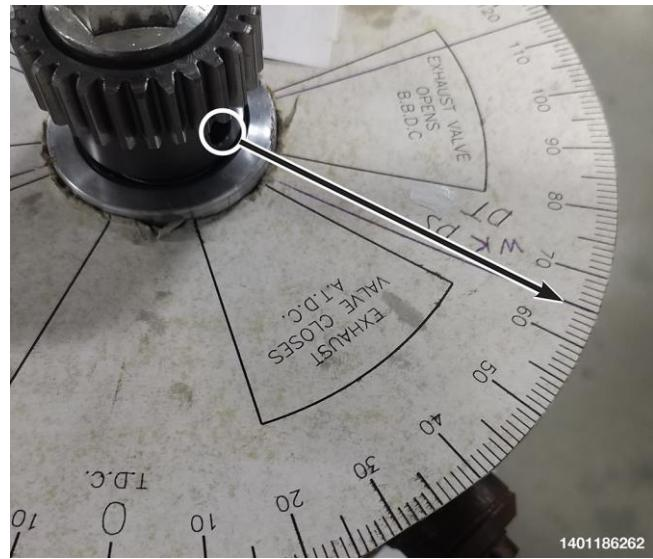

Figure 64 – Installing a Printed Paper Degree Wheel from the Internet
10. Install the degree wheel onto the pump and record the position of the hole in the gear on the degree wheel (Figure 64).
22. Install the degree wheel and rotate the pump shaft so that the hole aligns with the reference mark on the degree wheel that was recorded after the removal of the pump (Figure 64).